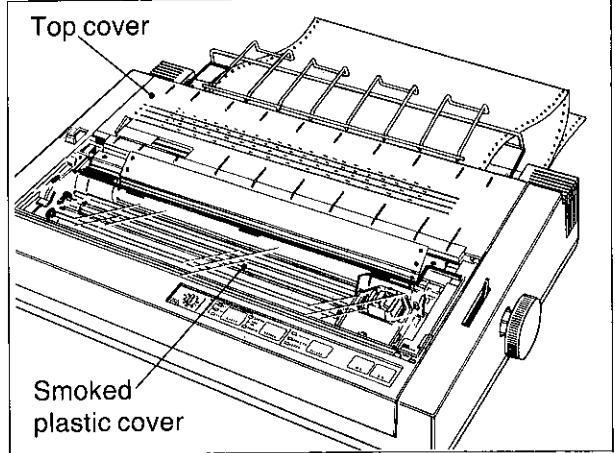

Figure 2.6D Replacing the Top Cover
- Press down and hold the line feed switch (LF) to advance the paper and stop the paper just before it reaches the smoked plastic cover.
- Press down and hold the line feed switch (LF) to advance the paper.
- Replace the top cover as shown in Figure 2.6D.